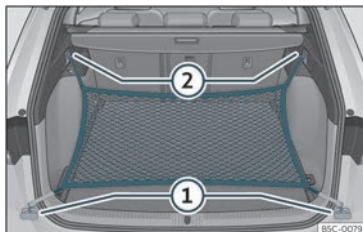

Fig. 126 In the luggage compartment: rings (1) and hooks (2) for attaching the net bag.
- Secure the short net hooks to the fastening rings»» **Fig. 126** (1) »» ⚠. The bag zip should be facing upwards.
- Secure the straps in the bag hooks (2).